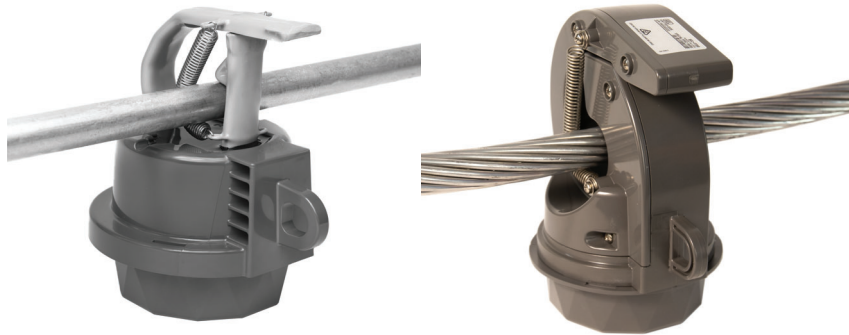

Figure 25 SEL-FT50/SEL-RP50 Secure on the Line
- Step 3. Apply slight upward pressure until the device is secured around the line as shown in *Figure 25*.